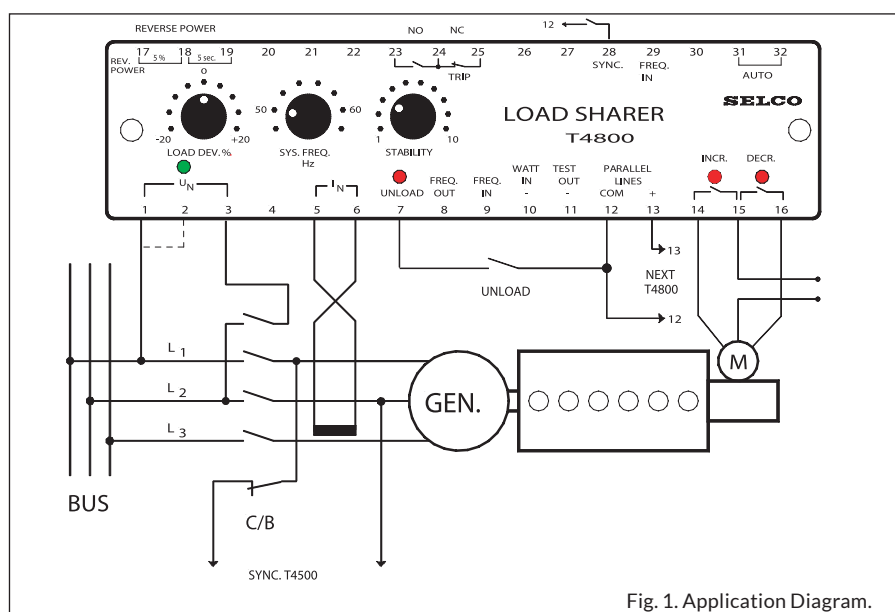

Fig. 1. Application Diagram.
The measuring current from L3 is connected to terminals 5 and 6 with 5 referring to the generator (see the diagram figure 1).
2. If the deviation from other generators is approximately two times, it is likely that the current on terminals 5 and 6 is measured in one of the phases supplying the T4800. The current must be measured in the phase that is not supplying the unit (see the application in fig. 1).